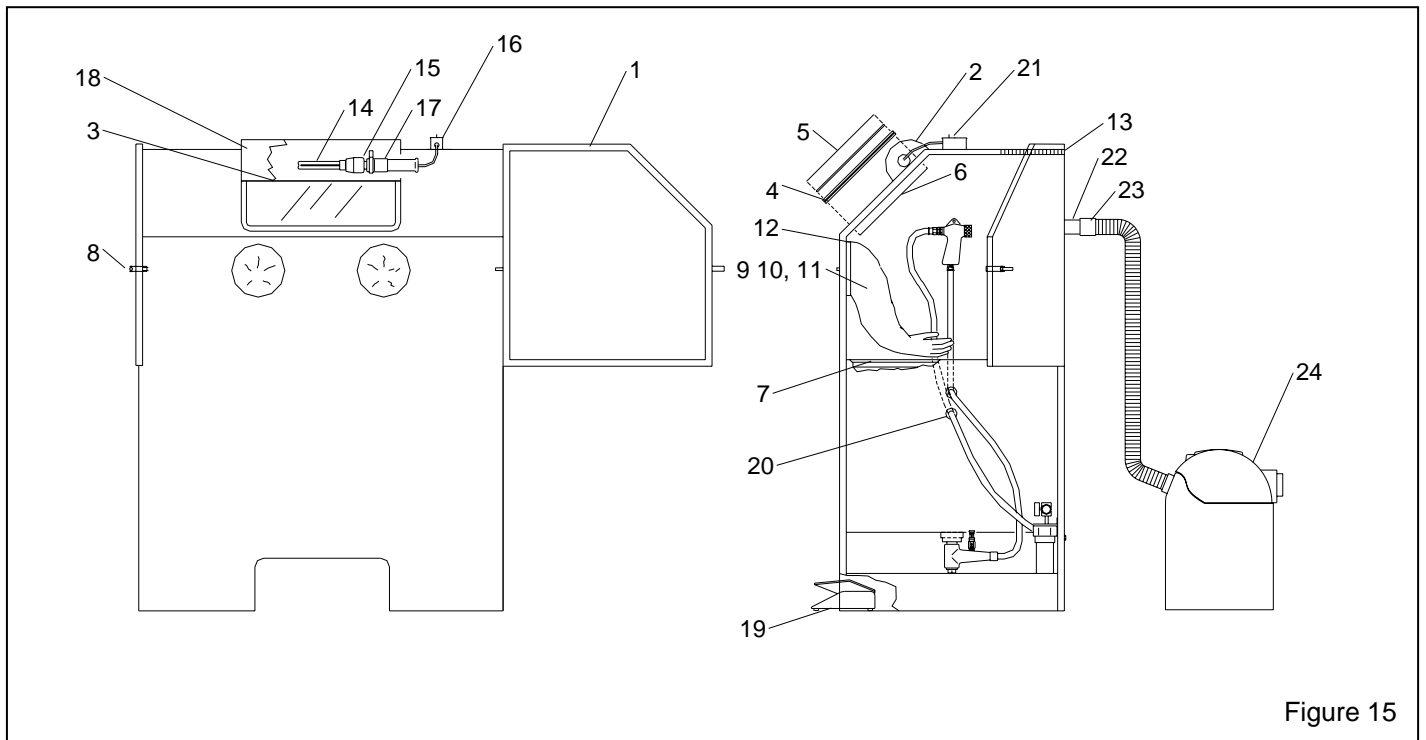

Figure 15
8.3 Cabinet Replacement Parts, Figure 15